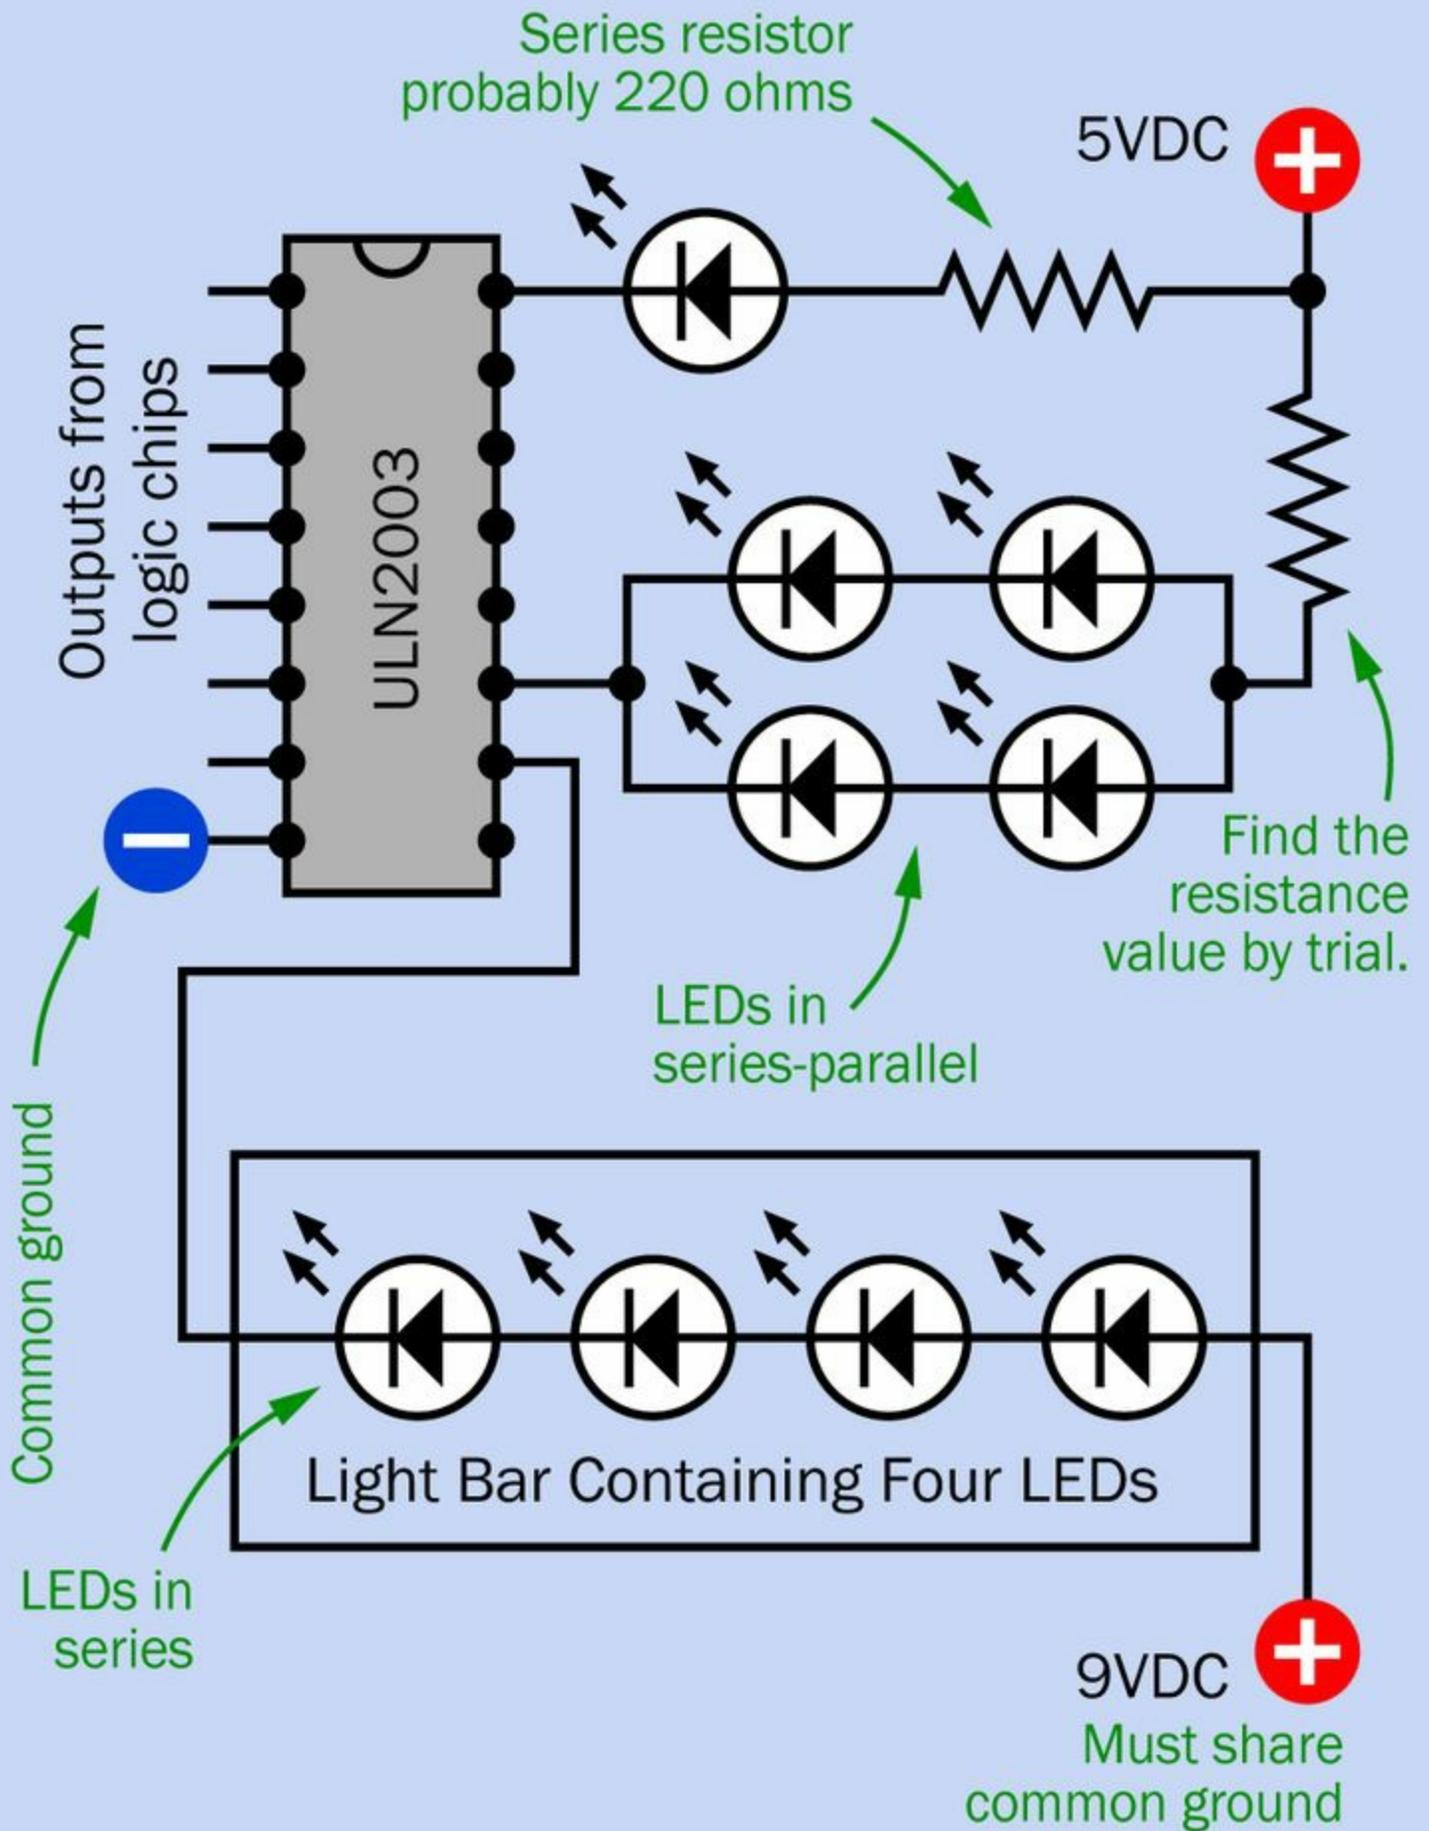

Figure 28-10. Three different options to wire LEDs with a Darlington array.
Some sample schematics illustrating three different ways to wire LEDs with a Darlington array are shown in Figure 28-10.
- Connect the four outside LEDs in each slice of the hexagrams in series-parallel, which is the middle configuration shown in Figure 28-10.